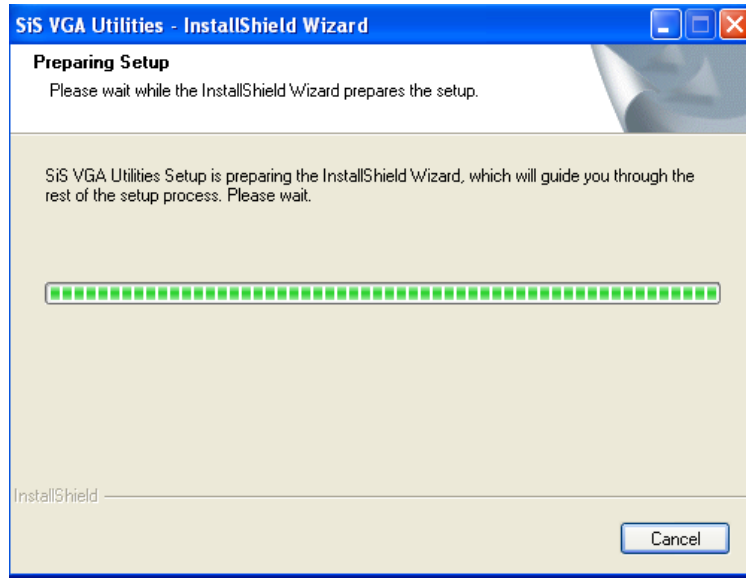

Figure 7-11: VGA Driver Preparing for Setup
Step 6: The program prepares for setup as shown in **Figure 7-11**.